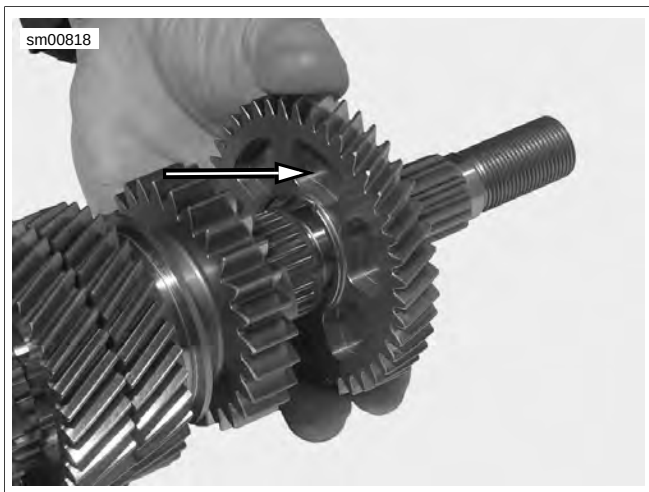

Figure 6-115. 2nd Gear Installation
2. See Figure 6-115. Install 2nd gear. Note 2nd gear pockets are installed toward the 5th gear engagement dogs.